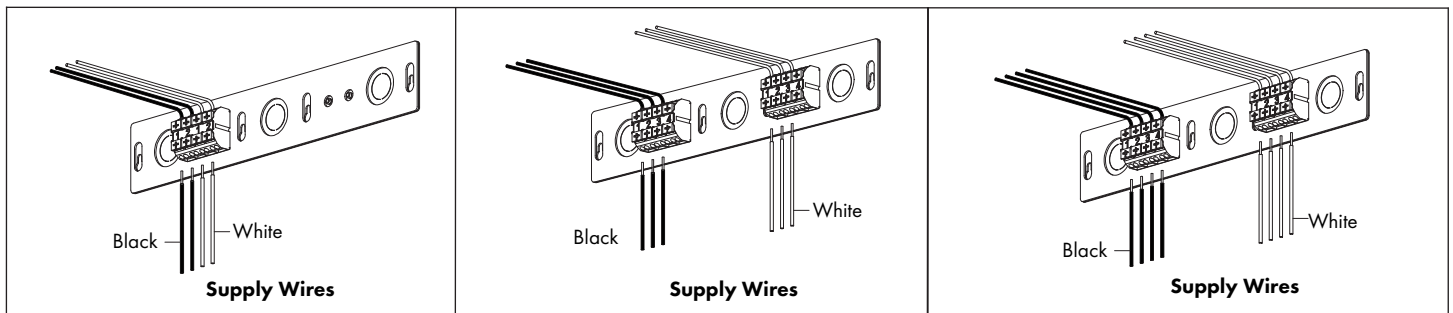

FIG 24.2 Attach Supply Wires
STEP 2 Make wire connections noting individual lamp circuit numbers - **FIG 24.2 & 24.3**.
- STEP 2** Make wire connections noting individual lamp circuit numbers - **FIG 24.2 & 24.3**.